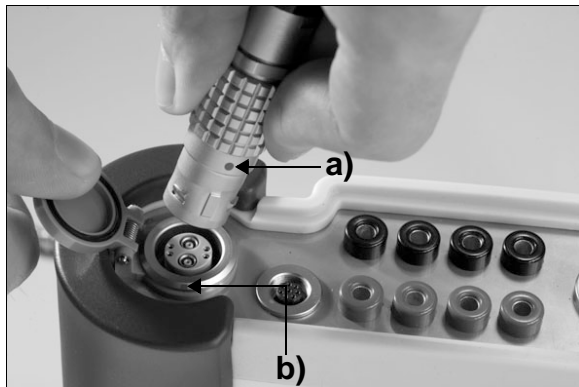

Fig. 8.1: Connection of the transducers to the transmitter
- Insert the connector of the transducer cable in the socket of the transmitter. The red point on the connector (a) must face the red marking (b) on the socket (see Fig. 8.1).